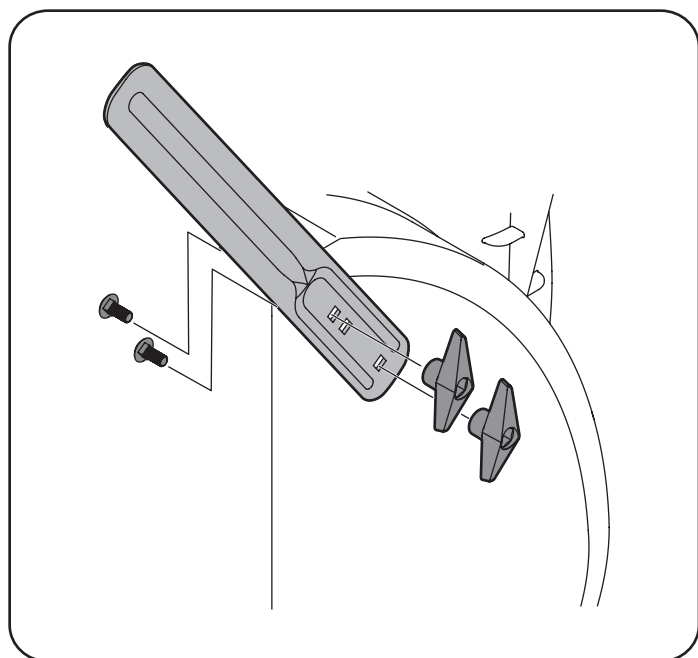

Figure 16
3. Attach the drift cutters with the screws and wing knobs on the outside of the auger housing as shown in Figure 16.
- For close snow removal on a smooth surface, raise skid shoes higher on the auger housing. Refer to Figure 16.